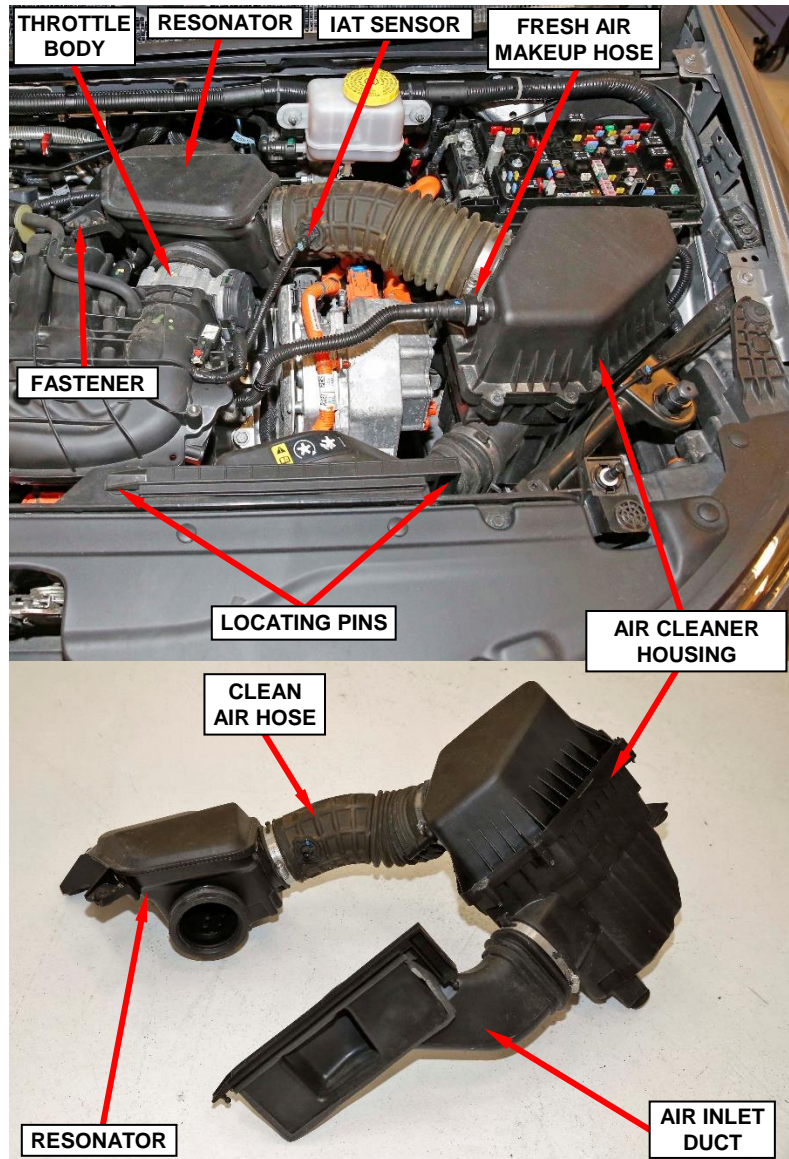

Figure 27 – Air Intake Assembly
3. Remove the fastener from the resonator (Figure 27).
4. Disconnect the wire harness connector from the Inlet Air Temperature (IAT) sensor (Figure 27).
5. Disconnect the fresh air makeup hose from the air cleaner housing (Figure 27).
6. Disengage the resonator from the throttle body and the locating pins from the rubber mount sockets (Figure 27).
7. Disengage the clean air housing locating pins from the rubber mount sockets (Figure 27).
8. Disengage the air inlet duct locating pins from the rubber mount sockets (Figure 27).
9. Remove the resonator, air cleaner housing, and air inlet duct as an assembly from the engine compartment for 12-volt cable access (Figure 27).
40. Position the resonator, air cleaner housing, and air inlet duct as an assembly into the engine compartment (Figure 27).
41. Engage the air inlet duct locating pins to the rubber mount sockets (Figure 27).
42. Engage the clean air housing locating pins to the rubber mount sockets (Figure 27).
43. Install the resonator to the throttle body and engage the locating pins to the rubber mount sockets (Figure 27).
44. Connect the fresh air makeup hose to the air cleaner housing (Figure 27).
45. Connect the wire harness connector to the IAT sensor (Figure 27).
- 46. Install the fastener securing the resonator (Figure 27).